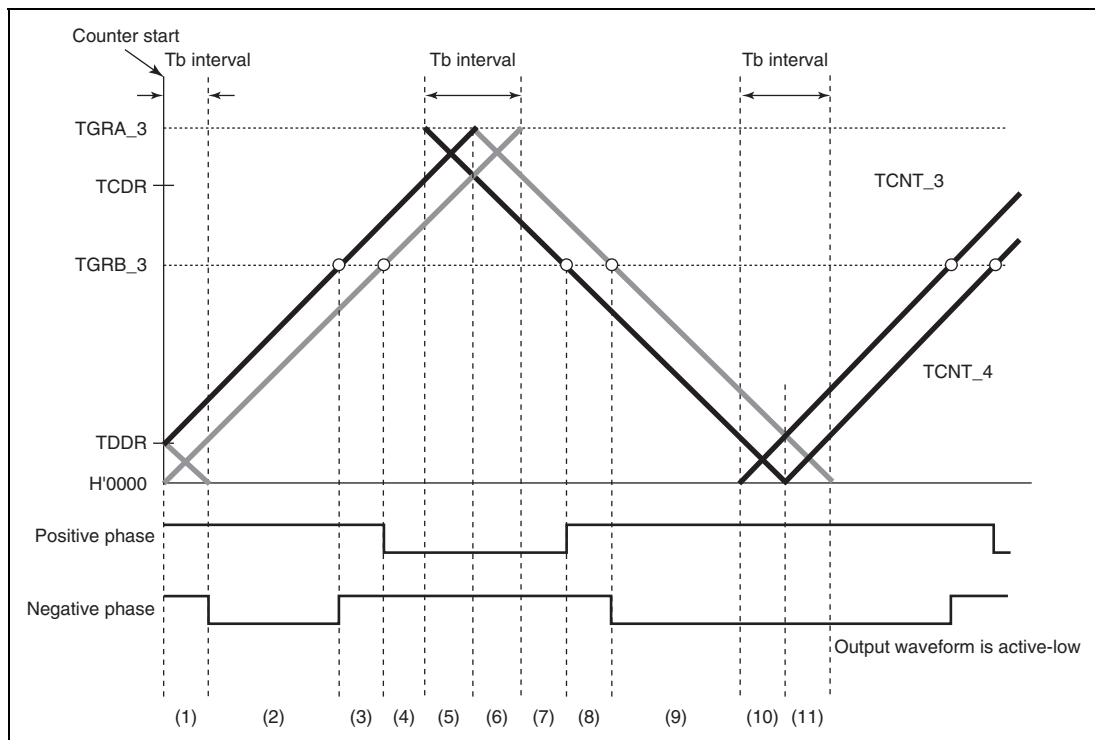

Figure 9.56 Timing for Synchronous Counter Clearing
Initial output suppression is applicable only when synchronous clearing occurs in the T_b interval at the trough as indicated by (10) or (11) in figure 9.56. When synchronous clearing occurs outside that interval, the initial value specified by the OLS bits in TOCR is output. Even in the T_b interval at the trough, if synchronous clearing occurs in the initial value output period (indicated by (1) in figure 9.56) immediately after the counters start operation, initial value output is not suppressed.
Figures 9.58 to 9.61 show examples of output waveform control in which the MTU2 operates in complementary PWM mode and synchronous counter clearing is generated while the WRE bit in TWCR is set to 1. In the examples shown in figures 9.58 to 9.61, synchronous counter clearing occurs at timing (3), (6), (8), and (11) shown in figure 9.56, respectively.
(Timing (6) in Figure 9.56; Bit WRE of TWCR in MTU2 is 1)**